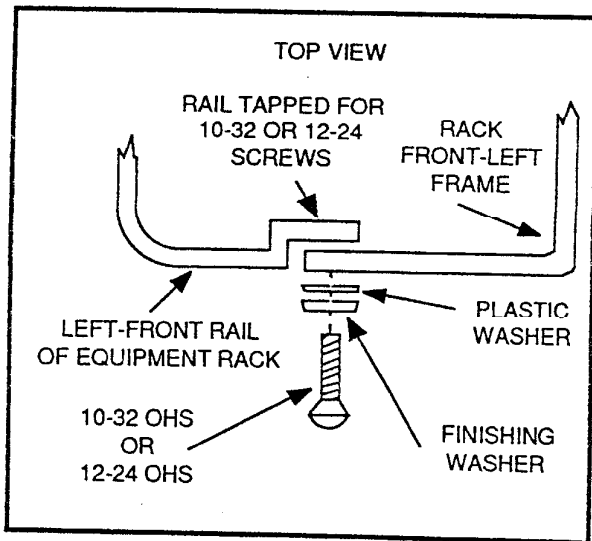

Figure 7-7. Securing rack-adapted Spectrum Analyzer to front rails of equipment rack.
4. Secure the front frames of the rack adapter to the front rails of the equipment rack using four oval-head screws, four finishing washers, and four plastic washers, as shown in Figure 7-7.